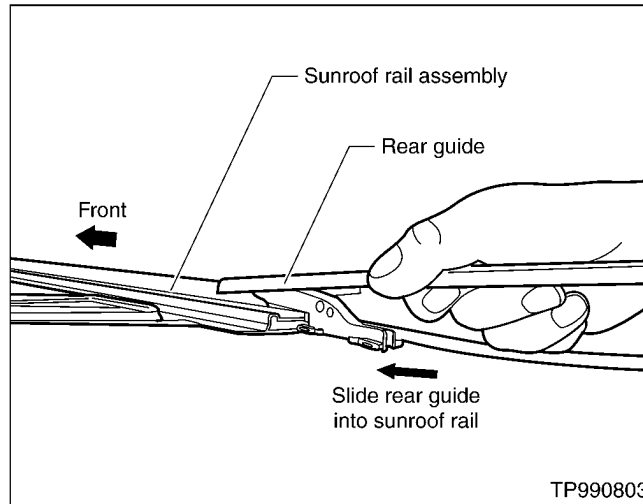
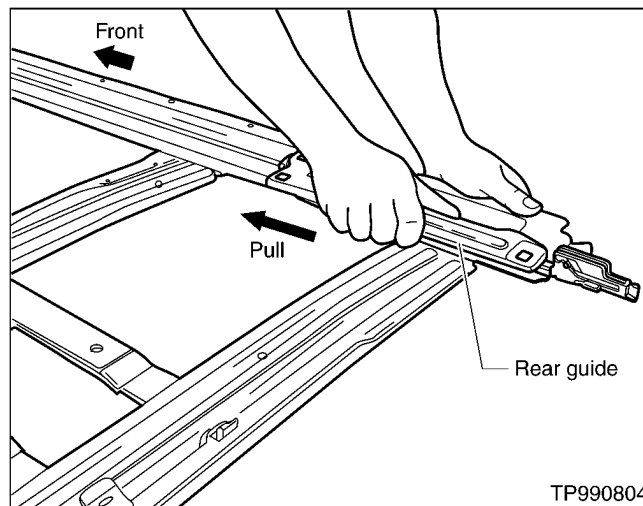
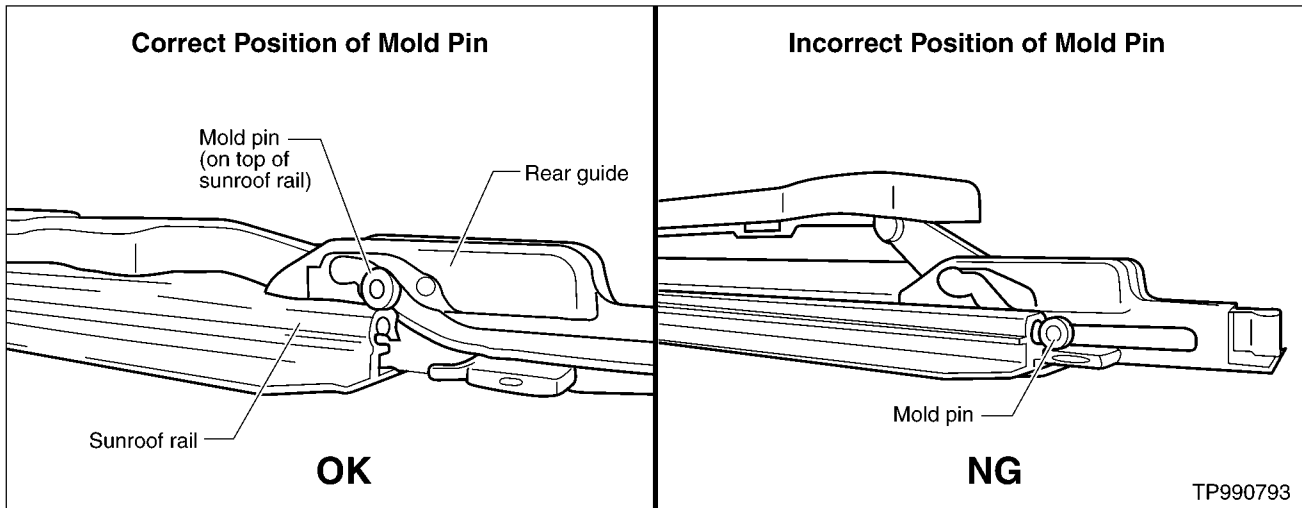

Figure 16
Figure 17
Figure 18
B. First, insert the front of the new rear guide into the sunroof rail (see Figure 16), then pull the guide towards the front of the sunroof rail assembly until the rear guide slides into the sunroof rail (see Figure 17). Make sure the mold pin is placed on top of the rail (see Figure 18) when inserting the rear guide.